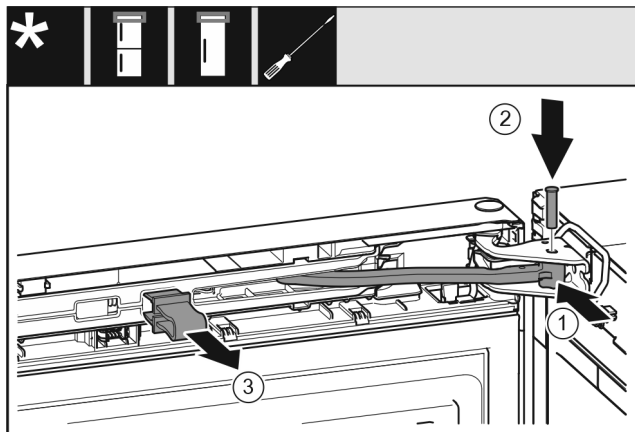

Fig. 52
- ▶ Turn the joint Fig. 52 (1) in the bearing block.
- ▶ Insert thebolt Fig. 52 (2) into the bearing bracket and joint. Ensure that the latching cam is in the groove properly.
- ▶ Remove the safeguard Fig. 52 (3).